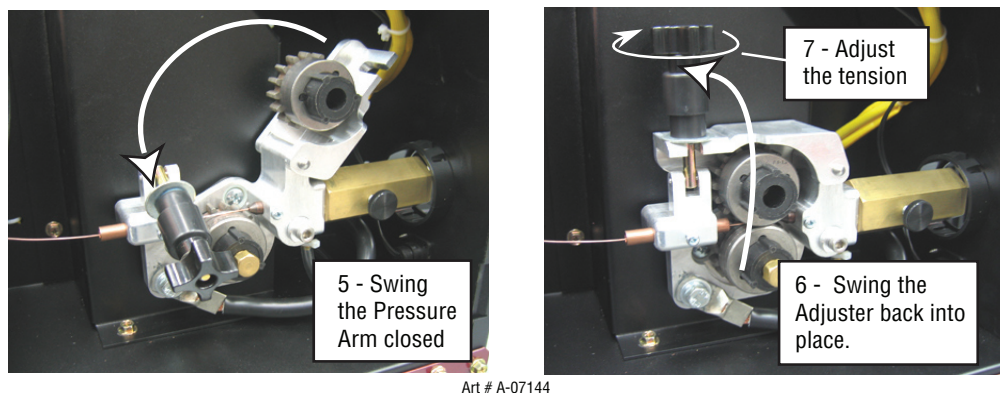

Figure 3-11: Closing Pressure Arm and Adjusting Tension
5. Close the Pressure Roller Arm. (Figure. 3-11)
6. Swing the Spring Pressure Adjusting Knob back into place. (Figure. 3-11)
7. Use the Spring Pressure Adjusting Knob to create a “snug” condition. (Clockwise to tighten and Counter Clockwise to loosen). (Figure. 3-11)